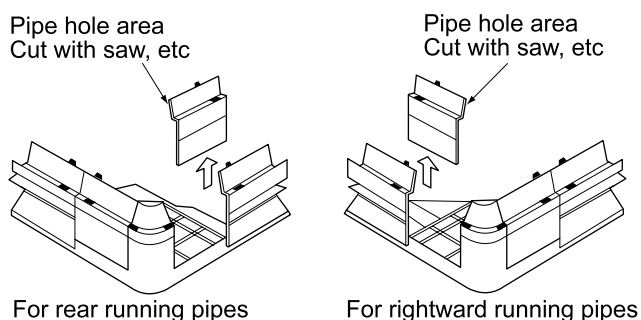

Fig. 36
- For upward or rightward running pipes, cut the corner covers as shown at Fig. 36 before attaching them. (Refer to Fig. 36)